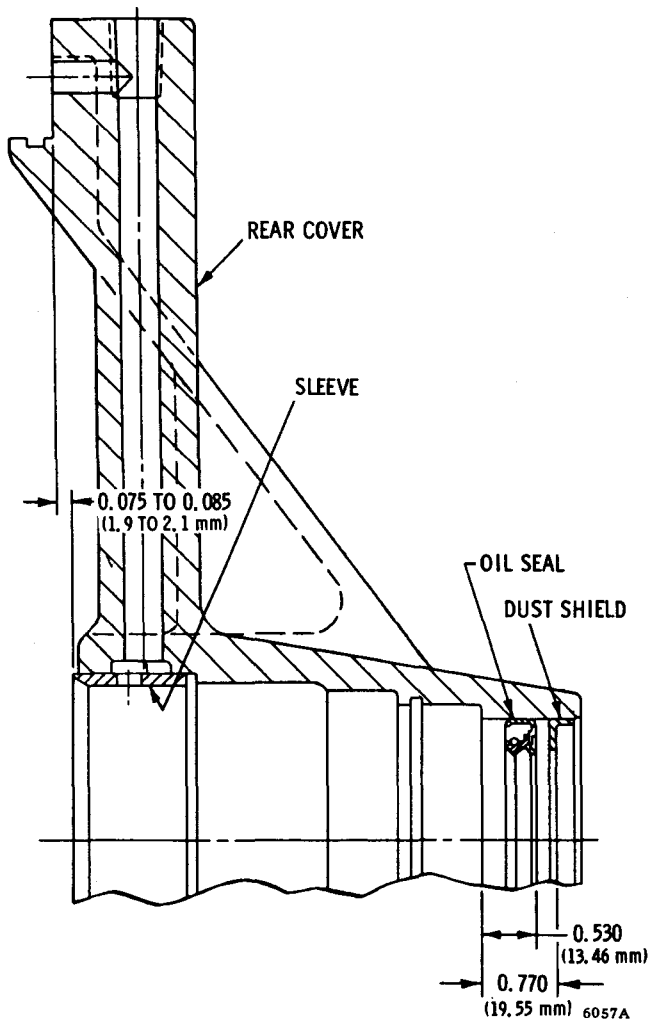

Fig. 6-17. Oil and dust shield installation diagram for TT model with PTO
(1) Install the PTO shaft lip-type seal-ring and dust shield as shown in figure 6-17. Install plug 32 (B, foldout 6). Tighten the plug sufficiently to prevent leakage.
(2) If sleeve 23 was removed, install a new sleeve, beveled OD first, into PTO cover 24. Press the sleeve to the dimension shown in figure 6-17. Install bearing 21 (B, foldout 6) and snapping 20 into PTO cover 24.
(3) If pin 18 was removed from shaft 19, install a new pin, straight outer diameter first, into the shaft. Press the pin into the shaft until it projects 0.810 to 0.830 inch (20.57 to 21.08 mm) from the front end surface of the shaft.
(4) Install snapping 16 onto shaft assembly 17, and install the shaft, threaded end first, into bearing 21 in PTO cover assembly 22. Seat the shaft in the bearing.